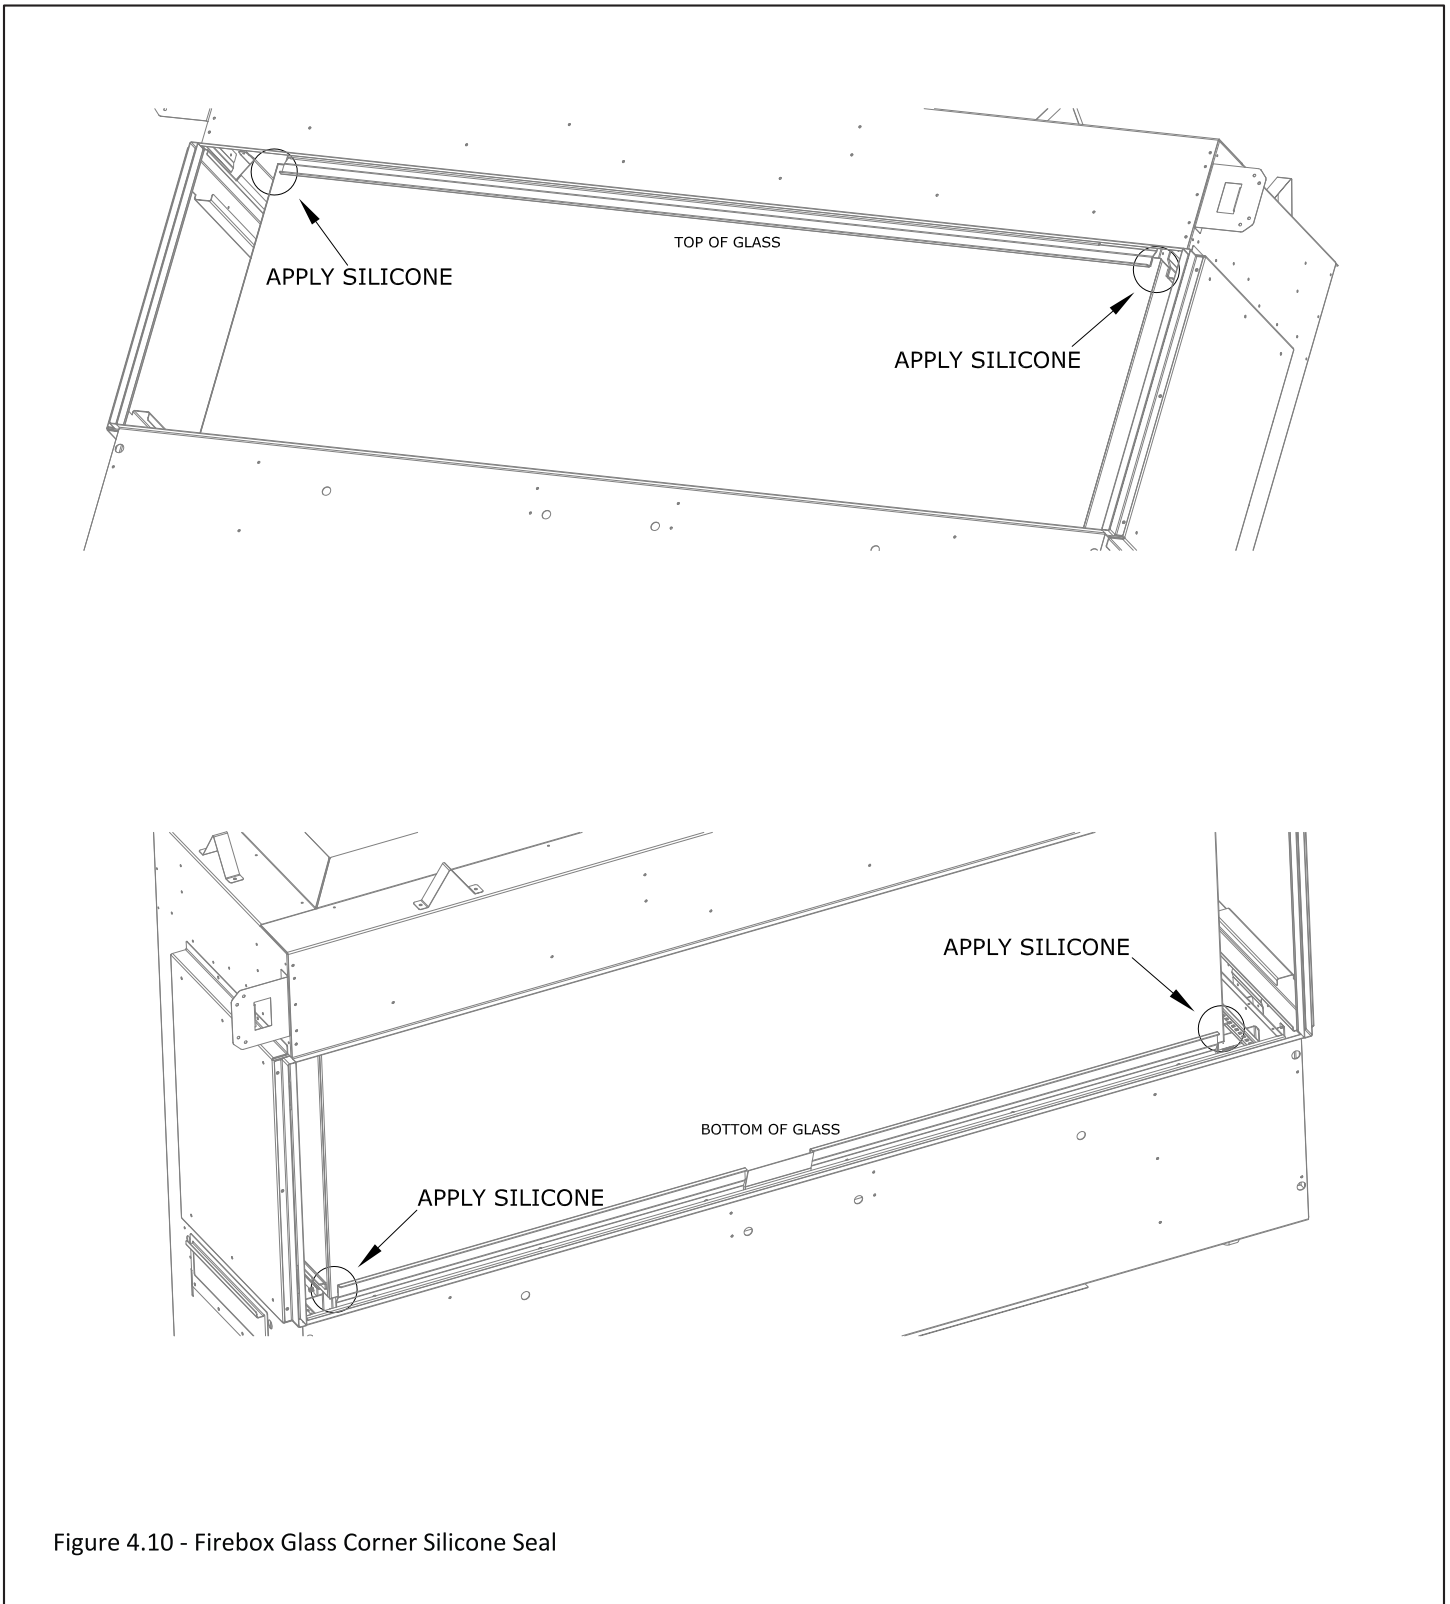

Figure 4.10 - Firebox Glass Corner Silicone Seal
5. Apply high temperature silicone to the top and bottom corners of where the front and side firebox glass pieces meet. See Figure 4.10.